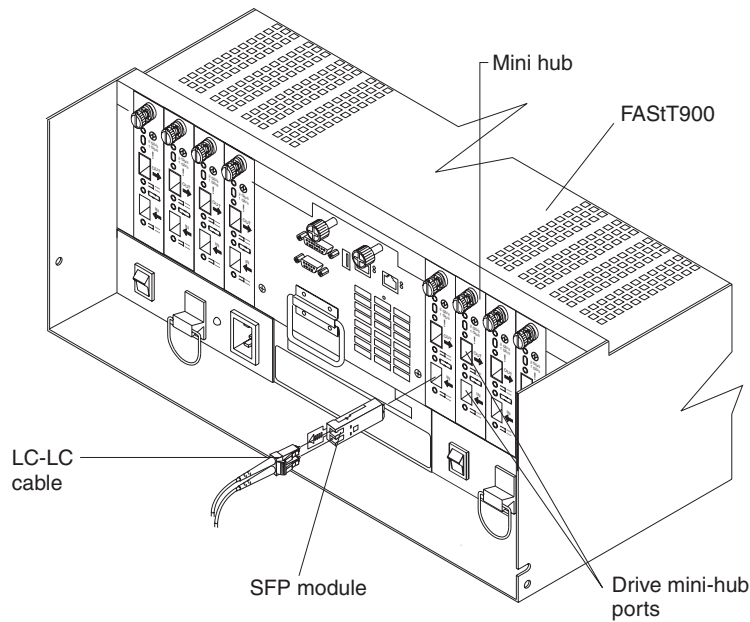

Figure 34. Installing an SFP module and LC-LC cable in a FAST900
2. Connect an LC-LC fiber-optic cable into the SFP module, as shown in Figure 34 on page 40.